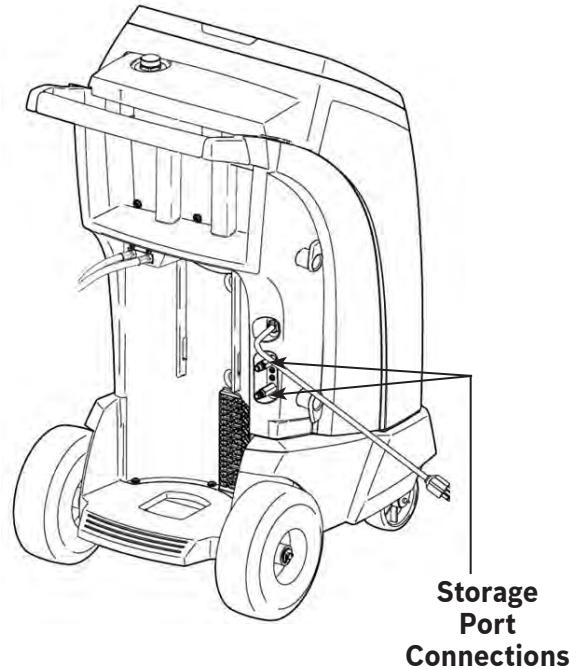

Figure 3
2. Connect the service hoses to the machine's storage port connections as shown in Figure 3.
3. Follow prompts to continue. If the system has an electric compressor with POE oil, flush all residual oil from the hoses. The user will be prompted to connect service hoses to storage ports and open coupler valves. See "Figure 3" on page 20. Continuing will begin the process of flushing the hoses. Once complete, continue through the Charge process.